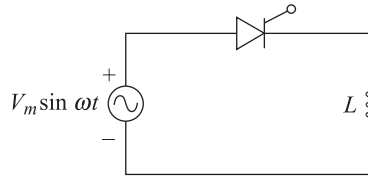

Fig. MCQ. 6.44
6.44 A half-wave thyristor converter supplies a purely inductive load, as shown in Fig. MCQ. 6.44. If the triggering angle of the SCR is 120° , the extinction angle will be